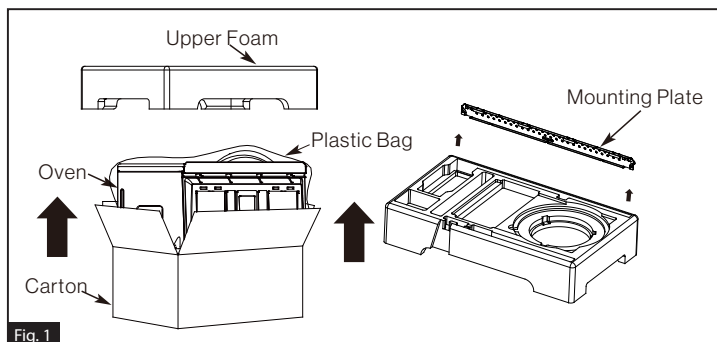

Fig. 1
3. Take the mounting plate out from the upper foam. (Fig. 1)